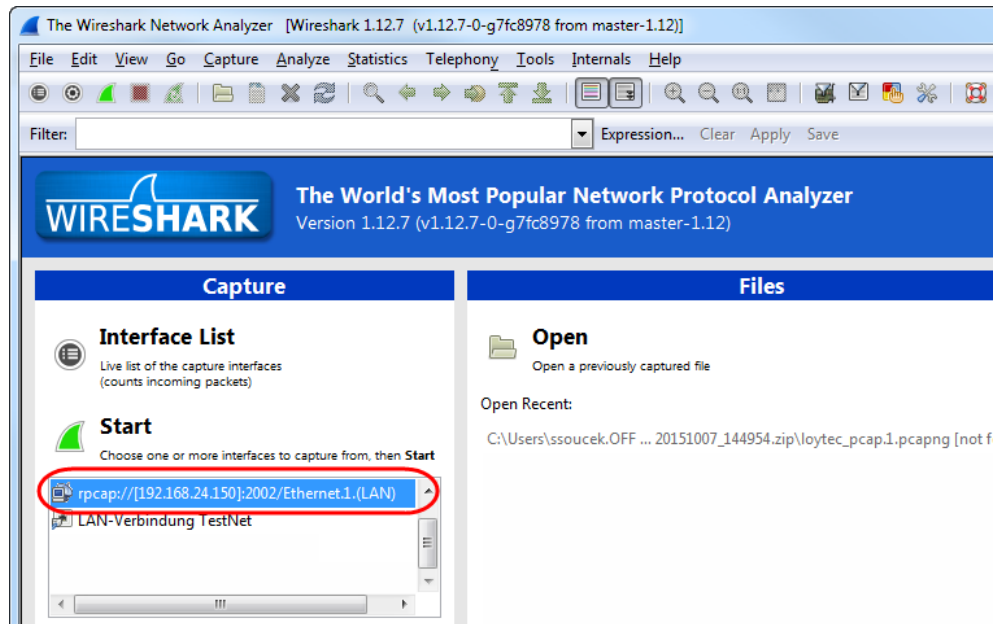

Figure 167: Start Remote Capture in Wireshark.
2. Click the **Start** button as shown in Figure 167.